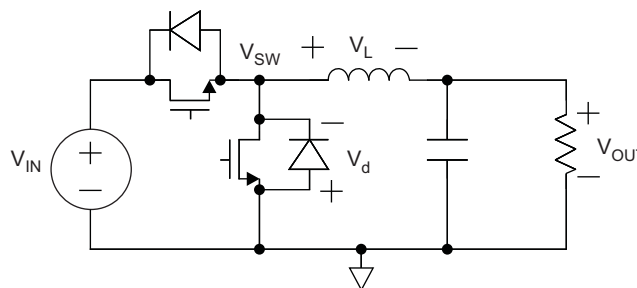

Figure 1. Synchronous Buck Converter
Figure 1 shows a synchronous buck converter. In a buck converter, the MOSFETs act as switches and are ideally either completely on or completely off. The diodes shown are the MOSFET parasitic body diodes. V_{SW} is the voltage at the switch (SW) node of the converter.
This delay causes a short period of time where both MOSFETs must be off. This time between the turnoff of one MOSFET and the turnon of the other is known as the dead time. During the dead time, the inductor current must continue to flow in the same direction and with the same magnitude, because inductor current cannot change instantaneously. The only path available to positive-flowing inductor current (current flowing into the positive node of the inductor in Figure 1) is through the low-side MOSFET body diode via the load and output capacitor. This completes the current loop and causes a voltage drop across the body diode, which leads to a value lower than -0.3 V at the SW node due to the relatively high forward voltage drop of the body diode. As soon as the low-side MOSFET turns on, current stops flowing through the body diode and flows through the MOSFET, whose voltage drop is lower than the 0.3 V that might turn on the body diode. The dead time and resulting voltage drop across the synchronous FET body diode is necessary for operation of a buck converter and does not damage the IC, because the current is supplied by the inductor and is a result of the basic operating principles of the converter.
Likewise, if the inductor current flows negatively (out of the positive terminal of the inductor in Figure 1) during the dead time, the negative inductor current must flow through the high-side MOSFET body diode, through the input capacitor, and back through the output capacitor to complete its loop. This action forces the SW node to exceed the input voltage and turns on the body diode until the high-side MOSFET turns on. This operation properly maintains the negative inductor current during the dead time and does not damage the device.